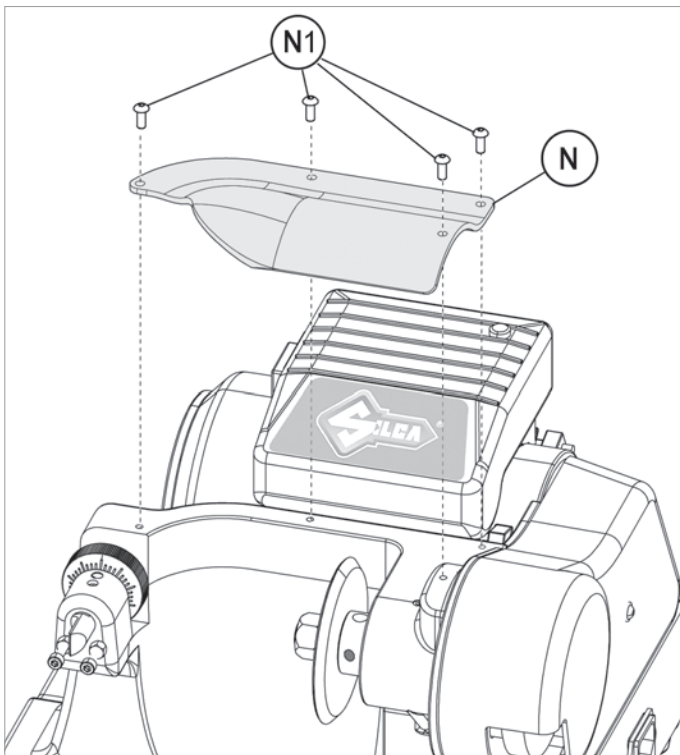
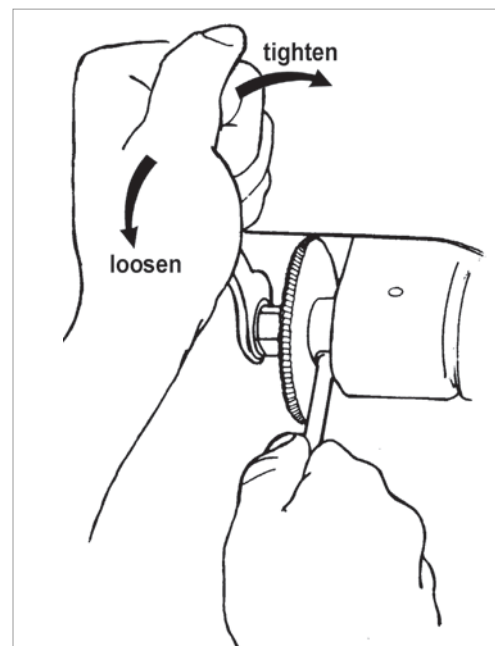

Fig. 30
Fig. 31
- 1) Remove the cutter locking screw (N1) and remove the cutter protective shield (N) (Fig. 30).
- 2) Slot the locking rod (provided) into the hole (F1) of the cutting tool shaft (Fig. 30 and Fig. 31).